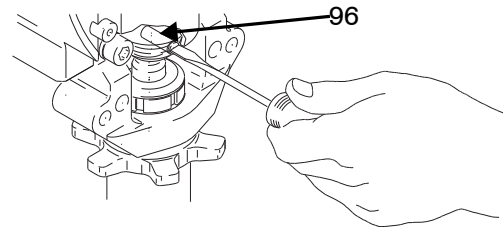

FIG. 9
5. Fig. 9. Use screwdriver: push retaining spring up and push out pin (96)
2. Fig. 9. Push pin (96) into hole. And push retaining spring into groove all the way around connecting rod.